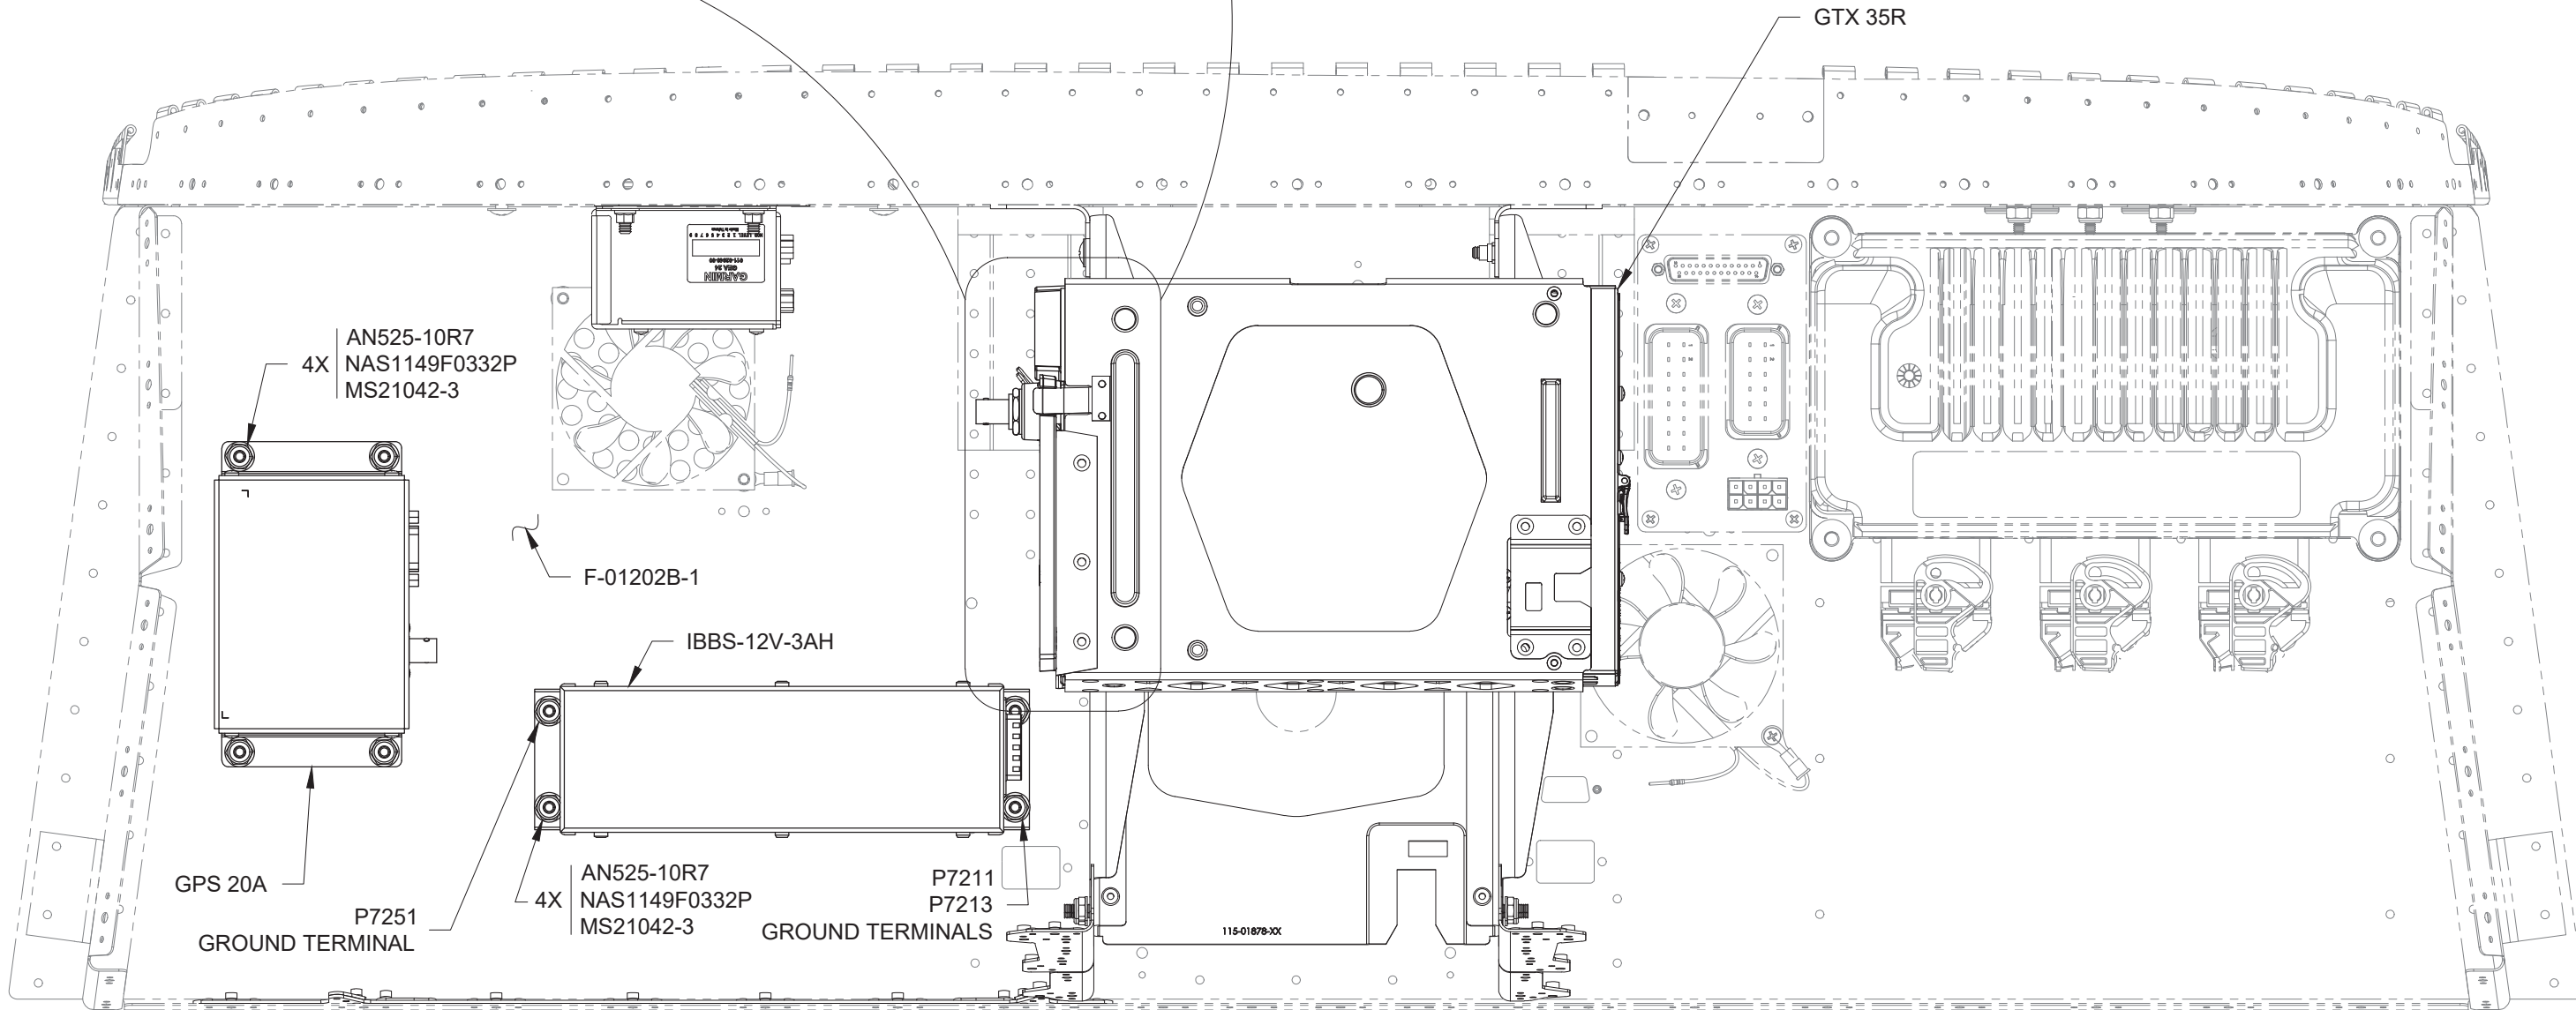

FIGURE 1: INSTALLING THE GPS 20A, GTX 35R, & BACK-UP BATTERY
- Step 1: Connect the 9-pin d-sub and BNC connectors labeled "GPS" from the WH-00134-2 RV-12iS Garmin Common Harness (VFR) to the GPS 20A as shown in Figure 1.